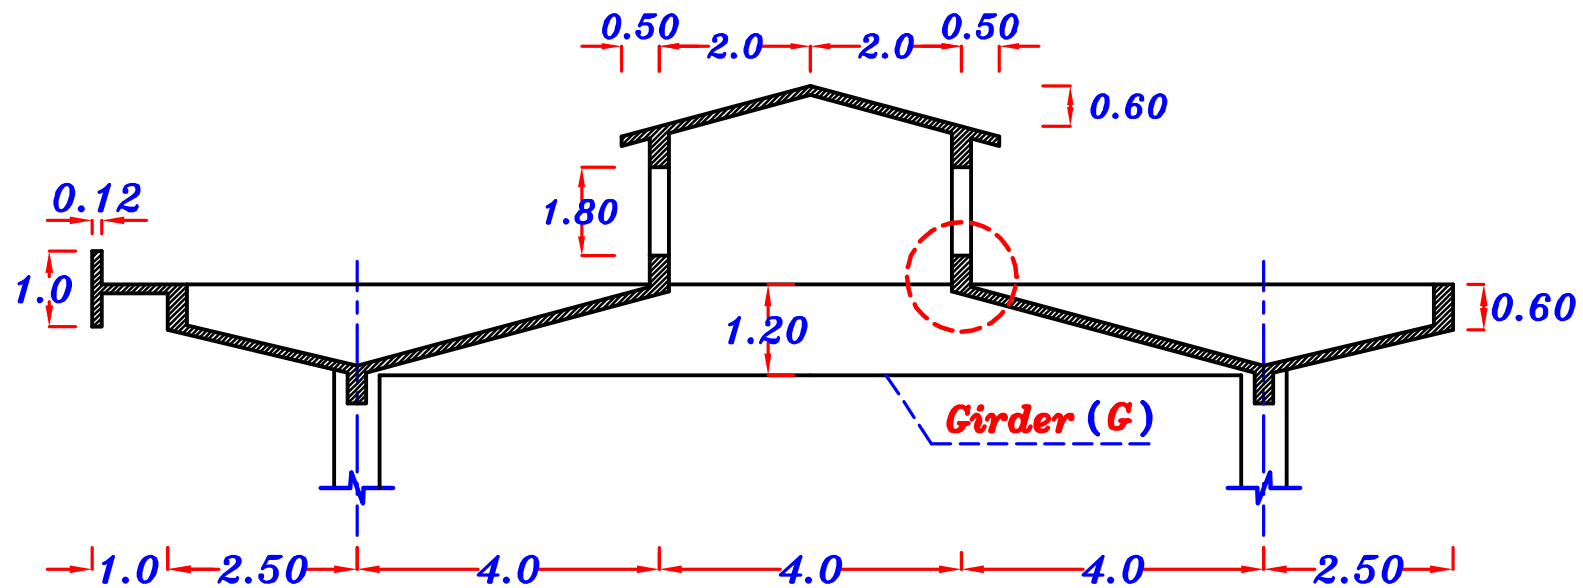

Figure 1
Figure 1 shows a sectional elevation of a reinforced concrete roof. The roof is covered by reinforced concrete slabs supported by a system of secondary beams and Girders (G), spaced at 6.0 m.